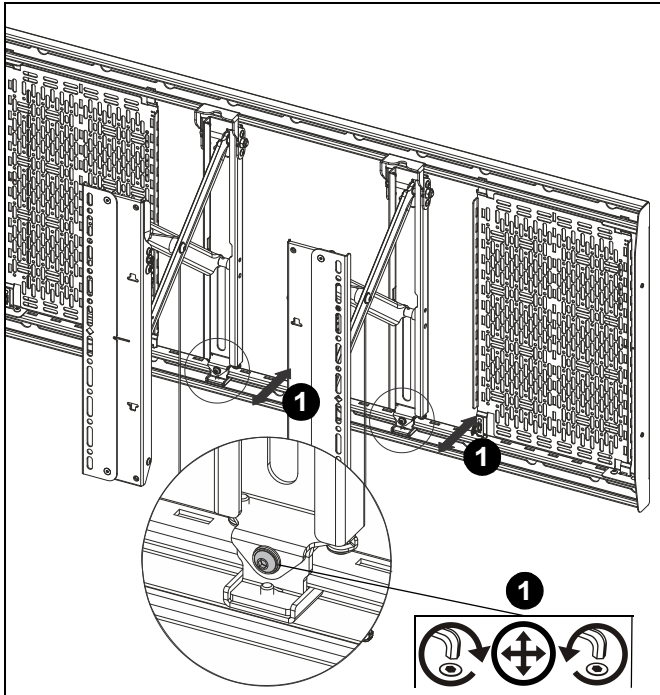

Figure 34
1. Adjust plumb adjustment screws to adjust plumb of each interface bracket (A and B). (See Figure 34)